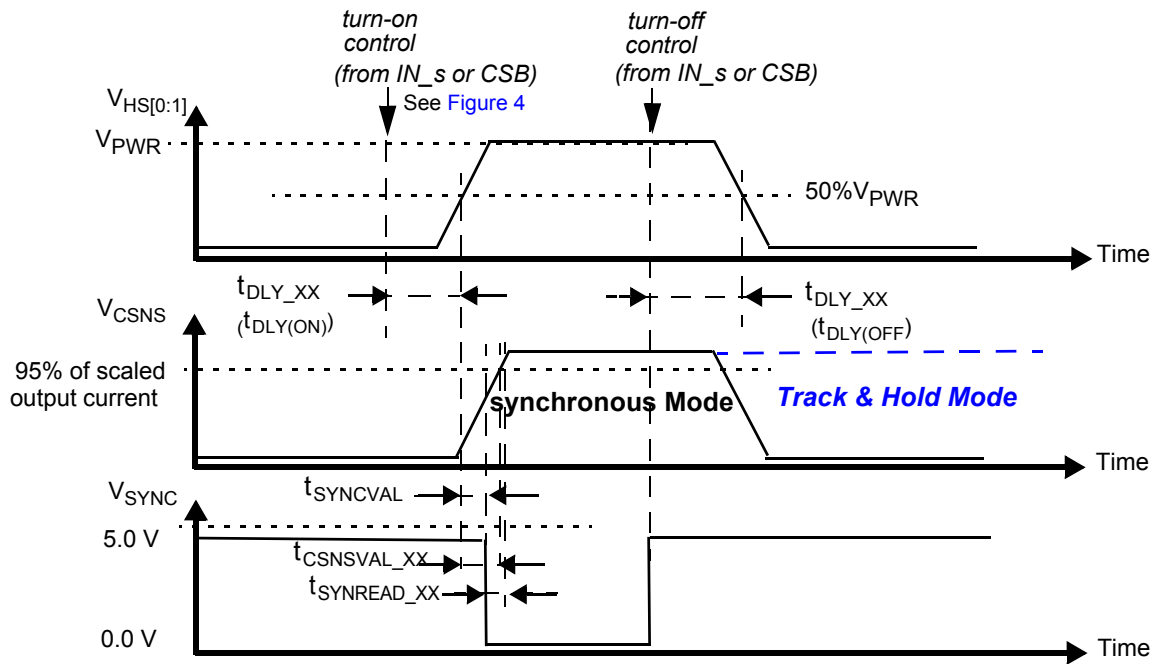

Figure 9. Synchronous and track-and-hold current sensing modes: associated delay & settling times
29. Time required to switch off the channel after detection of overtemperature (OT), overcurrent (OC), SC or UV error (time measured between start of the negative edge on the FSB pin and the falling edge on the output voltage until  $V(\text{HS}[0:1]) = 50\%$  of  $V_{PWR}$ ).
30. Settling time (=  $t_{\text{CSNSVAL\_XX}}$ ), SYNC output signal delay (=  $t_{\text{SYNCVAL\_XX}}$ ) and Read-out delay (=  $t_{\text{SYNREAD\_XX}}$ ) are defined for a stepped load current (100 mA < I(Load) < IOCLX A FOR CSNS\_RATIO\_S = 1, AND 300 mA < I(Load) < IOCLX A\_0 FOR CSNS\_RATIO\_S = 0). (see Figure 9 and Output current monitoring \(CSNS\))
The CS pin allows independent current monitoring of channel 0 or channel 1 up to the steady-state overcurrent threshold. It can also be used to sense the device temperature. The different functions are selected by setting bits CSNS1\_en and CSNS0\_en to the appropriate value (Table 23). When the CSNS pin is sensed during switch-off in the (optional) track & hold mode (see Figure 9), it outputs the scaled value of the load current as it was just before turn-Off. When several devices share the same pull-down resistor, the CSNS pins of devices the current of which is not monitored must be tri-stated. This is accomplished by setting CSNS0\_en = 0 and CSNS1\_en = 0 in the GCR register (Table 10). Settling time ( $t_{CSNSVAL\_XX}$ ) is defined as the time between the instant at the middle of the output voltage's rising edge ( $HS[0:1] = 50\%$  of  $V_{PWR}$ ), and the instant at which the voltage on the CSNS-pin has settled to  $\pm 5.0\%$  of its final value. Anytime an overcurrent window is active, the CSNS pin is disabled (see Overcurrent detection on resistive and inductive loads). The current and temperature sensing functions are unavailable in Fail-safe mode and in Normal mode when operating without the  $V_{DD}$  supply voltage. In order to generate a voltage output, a pull-down resistor is required ( $R(CSNS) = 1.0$  k $\Omega$  typ. and  $470 < R(CSNS) < 10$  k). When the current sense resistor connected to the CSNS pin is disconnected, the CSNS voltage is clamped to  $V_{CL(CSNS)}$ . The CSNS pin can source currents up to about 5.6 mA.
To synchronize current sensing with an external process, the SYNC signal can be connected to a digital input of an external MCU. SYNC is asserted logic low when the current sense signal is accurate and ready to be read. The current sense signal on the CSNS pin has the specified accuracy  $t_{SYNCREAD\_XX}$  seconds after the falling edge on the SYNC pin (Figure 9) and remains valid until a rising edge is generated. The rising edge that is generated by the SYNC pin at the turn-OFF instant (internal or external) may also be used to implement synchronization with the external MCU. Parameter  $t_{SYNCVAL\_XX}$  is defined as the time between the instant at the middle of the output-voltage rising edge ( $HS[0:1] = 50\%$  of  $V_{PWR}$ ), and the instant at which the voltage on the SYNC-pin drops below 0.4 V ( $V_{SOL}$ ). The SYNC pins of different devices can be connected together to save  $\mu$ -controller input channels. However, in this configuration, the CSNS function of only one device should be active at a time. Otherwise, the MCU does not determine the origin of the SYNC signal. The SYNC pin is open drain and requires an external pull-up resistor to VDD.